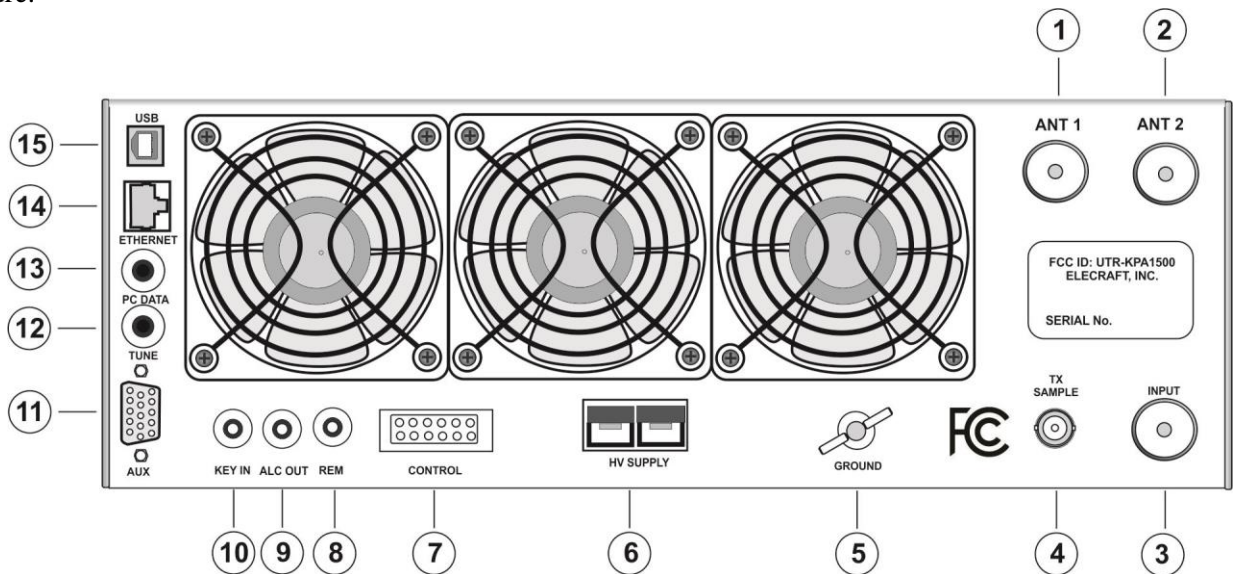
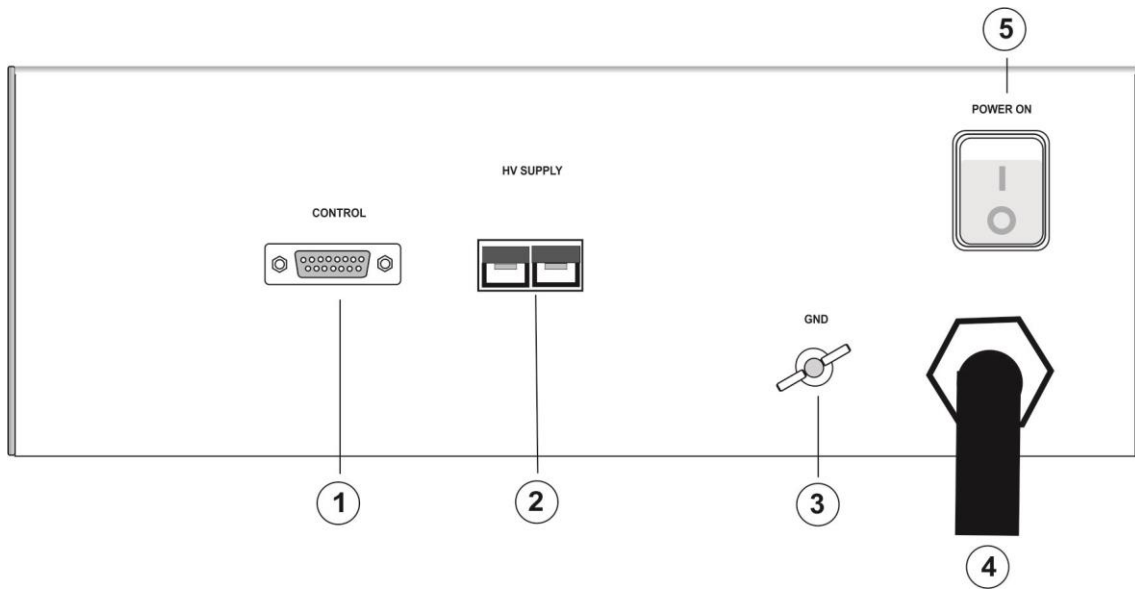

Figure 1. KPA1500 RF Deck Rear Panel
Figure 2. Power Supply Rear Panel.
The KPA1500 RF deck rear panel is shown in Figure 1. The connectors and controls are described following the figure.
The KPA1500 Power Supply Deck is shown in Figure 2. The connectors and controls are described below the figure.
Be sure the POWER ON switch (⑤) . Figure 2) is off before connecting any cables to the Power Supply or RF deck.
Connect the Power Supply to the RF deck with the supplied 66-inch (167 cm) cable that has an Anderson PowerPole® connector and a 15-pin connector at each end. Plug the PowerPole connector into the HV Supply connector (⑥) on the RF Deck rear panel (see Figure 1) and the corresponding connector on the Power Supply (②, Figure 2). Observe the polarity; match the colors on the plug with the connectors. ***Note that the 75A PowerPole connectors click twice when inserted. There is no electrical connection until the second “click”.***
Connect the 15-pin connector to the Power Supply and the Control connector (⑦, Figure 1) on the RF Deck rear panel.
1. Connect your station ground to the GND wing-nut **⑤** (see Figure 1 on page 6). A good station ground is important for safety and to minimize local radio frequency interference (RFI).
2. Attach the RF INPUT **③** to the output of your driving transceiver or transmitter using a 50 ohm coaxial cable with a PL-259 male connector on the KPA1500 end.
3. Attach the ANT 1 **①** or ANT 2 connector **②** to a suitable load with an SWR of less than 1.5:1. A 50Ω 1500W dummy load is strongly recommended for initial testing. Be sure to select the correct ANT connector using the front panel ANTENNA switch before transmitting.